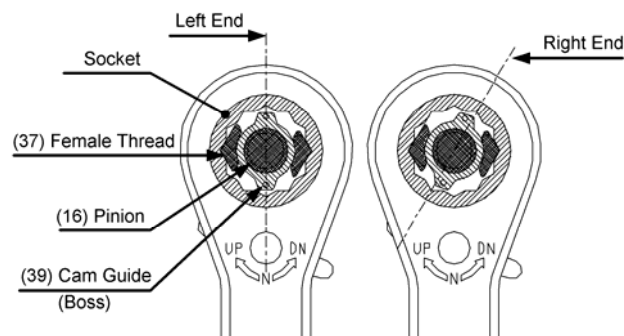

Figure 5-18 Cam Guide Attachments
- 2) As shown in Figure 5-18, set (39) Cam Guide with its boss upward around (16) Pinion as the boss is aligned between the left end and the right end.